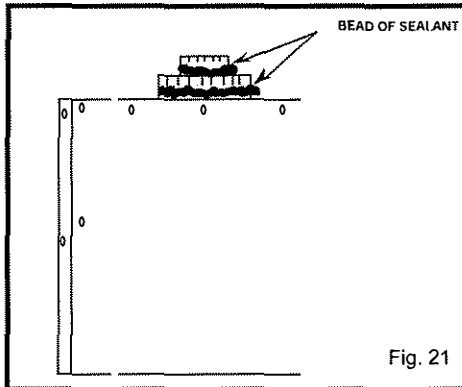

Fig. 21
(Fig. 21) Apply a bead of high temperature sealant to the inner and outer flue collars of the fireplace and using appropriate venting component(s) attach to fireplace with three (3) screws. Follow with the installation of the inner and outer elbow. Again secure joints with three (3) sheet metal screws. Wipe off any excess high temperature sealant.